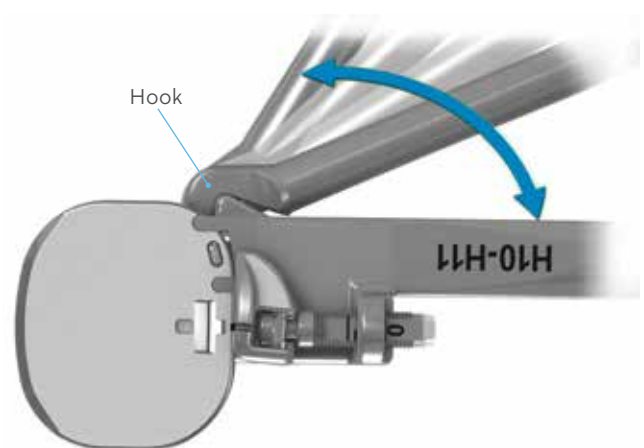

Figure 28
- Lock the tube onto the implant holder by screwing the handle of the impactor's rod (**Figure 28**).